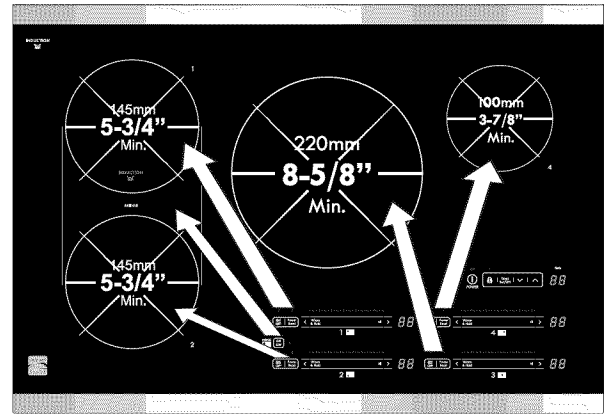

Fig. 8
- Pan does not meet the minimum size required for the Cooking Zone used (Figs. 8 & 9).
- Pan size meets or exceeds the recommended minimum size for the Cooking Zone (Figs. 8 & 9).
The Cooking Zones available on the Induction Cooktop require a **MINIMUM** pan size to be used at each location (Figs. 8 & 9).
The Induction cooktop has Cooking Zones designed for cookware of various sizes. Be sure to place cookware that meets the minimum and maximum pan size requirements (Figs. 8 & 9) for the Cooking Zone desired and is best for the amount of food being prepared. Place the cookware with the prepared food on the Cooking Zone **BEFORE** setting any of the Cooktop controls.